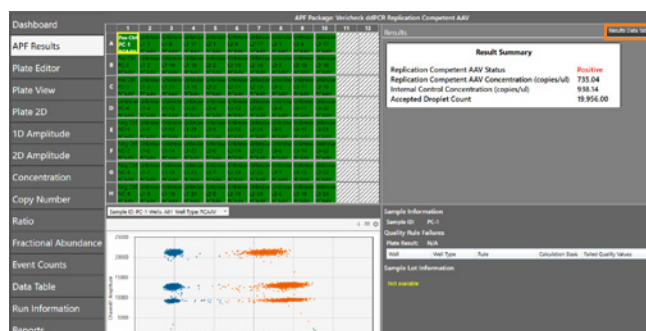

Fig. 11. APF Results tab showing results for a positive control well. Orange rectangle shows the Results Data Table button.
1. Navigate to the APF Results tab in QX Manager Software and select a well to view the APF Result Summary (Figure 11).
2. On the APF Results tab, the results for all wells can be viewed together by clicking Results Data Table in the upper right corner of the screen (Figure 11, orange rectangle). All concentration values in the Results Data Table are given in copies/μl of the final 1x ddPCR reaction.